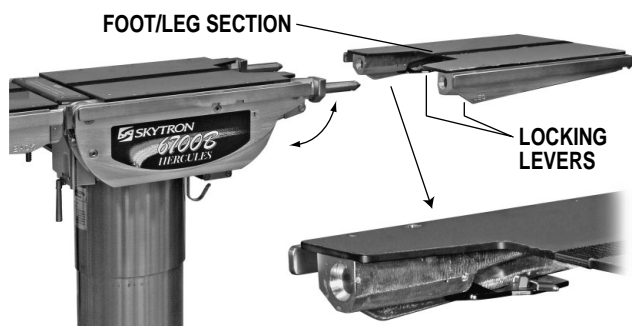

Figure 2-20. Leg Section Removal
a. The Leg Section and the Back Section on the 6700B Hercules tables are both removable. See figure 2-20 (Leg Section shown).